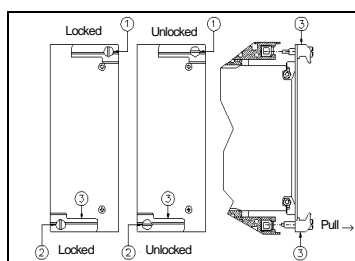

Figure 3.2: Latch Mechanism for Removal of Relay from Case
To remove the relay from its case, refer to Figure 3.2. The relay may be removed from its protective case by turning with a flat bladed screwdriver the locking screws ① and ② on the front panel latches ③ so that the slot on the screw is parallel to the ground. The latches may then be pulled from the inside edge to release the relay. Carefully pull on the latches to remove the relay from the housing.